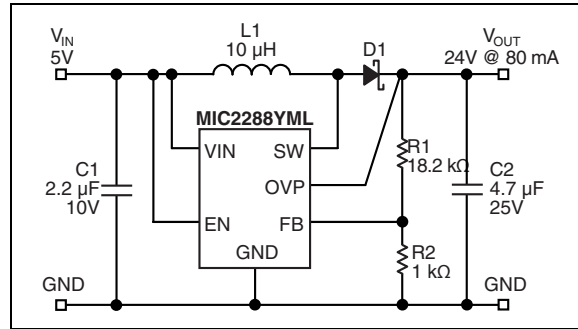

FIGURE 6-8: 5 V_{IN} to 24 V V_{OUT} @ 80 mA.
- Updated part numbers C2 and L1 (Figure 6-8).